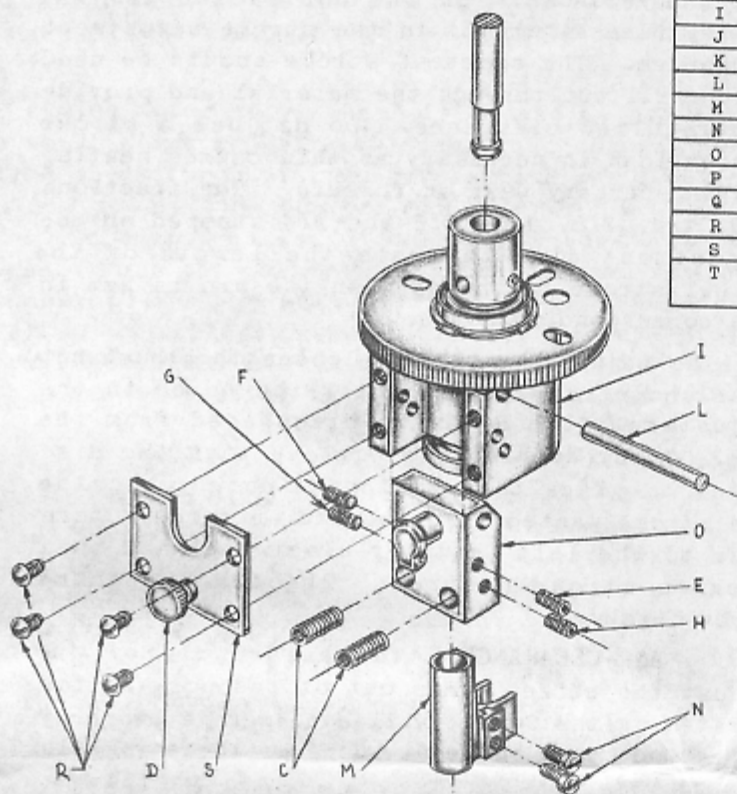

Figure 5
A4--CHISEL GUIDE. (See Figures 5, 6 and 7) The chisel guide foot, (A) supports the chisel just above the work and directs it so that each cut follows the path begun by its predecessors.
(See Figures 5, 6, and 7. In following these instructions please note that the Set Screws F & G are on the operator's left when the swivel is in the position shown in Figure 13, and on the right when the swivel is in the position shown in Figure 15. In replacing the guide foot, the swivel is locked in the position shown in Figure 15.)